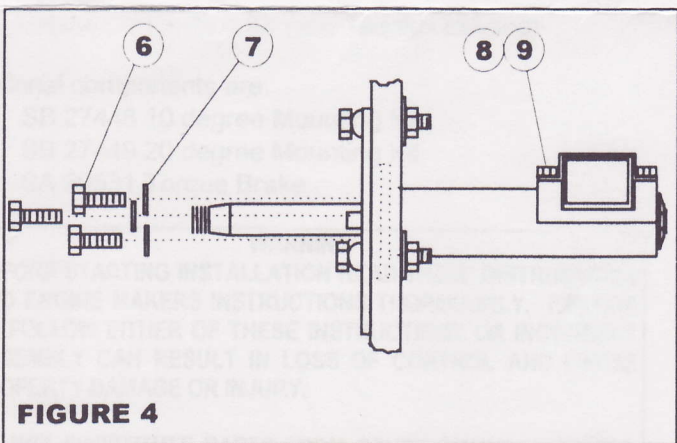

FIGURE 4
Step 3. Attach the helm and cable assembly to the helm mounting plate, using three bolts (item 6) and washers (item 7) supplied with the SB 39526 Bezel Kit (see figure 4). If required, the helm and cable assembly can be angled 20° from horizontal in either direction by rotating the helm and cable assembly in the mounting plate slots before tightening (see figure 1). Tighten bolts securely after positioning helm.